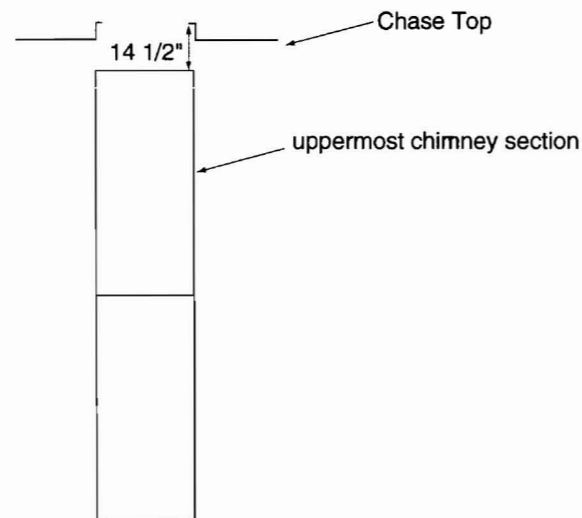

Figure 2
1. The uppermost chimney section must terminate no less than 14-1/2" below the top of the flashing cone on the Chase Top. See Figure 2 for additional details.